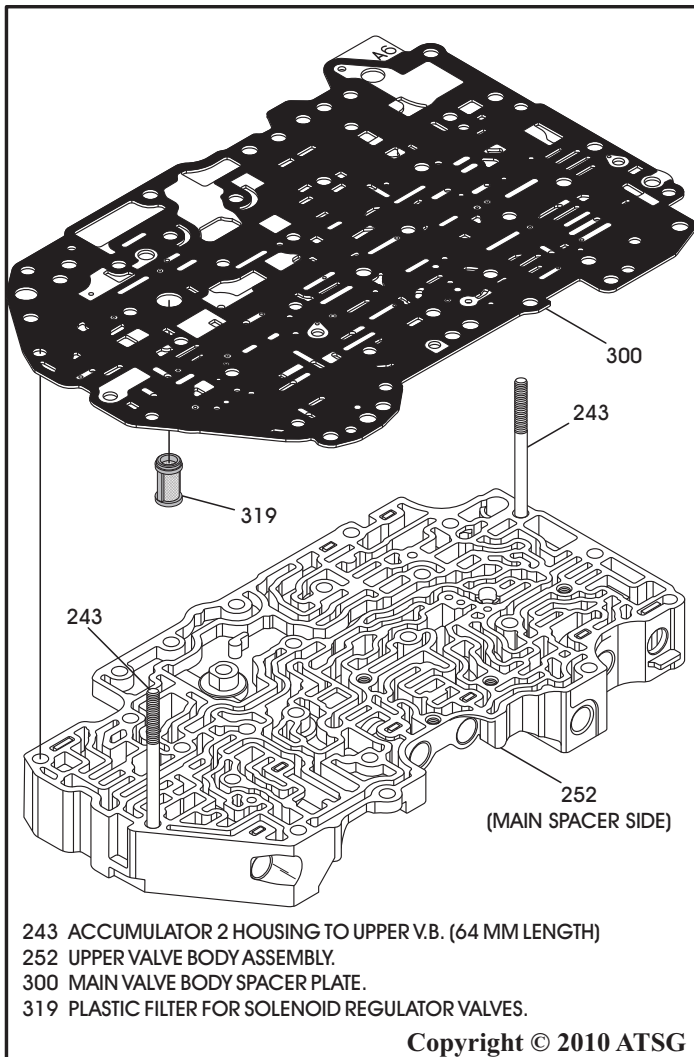

Figure 154
4. Install the plastic filter into the valve body spacer plate, as shown in Figure 154, with the open end towards spacer plate.
5. Temporarily install two of the long accumulator housing bolts through bottom of upper valve body, as shown in Figure 154, for alignment of the spacer plate.
16. With all small parts in place, carefully install the spacer plate and filter assembly over alignment bolts, as shown in Figure 154.